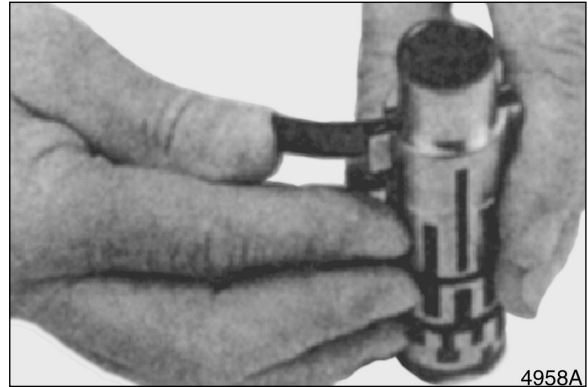
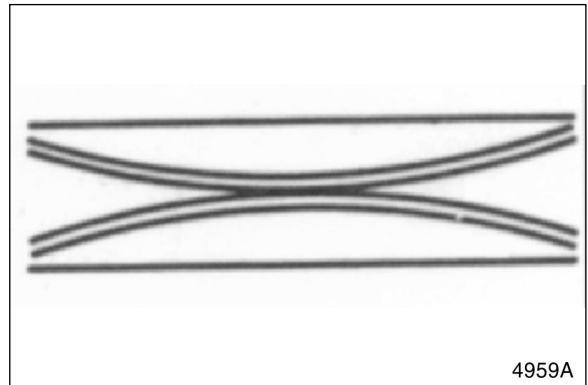

Figure 28
Figure 29
1. Install springs in spool slot. See Figure 28. Springs must be positioned as shown in Figure 29.